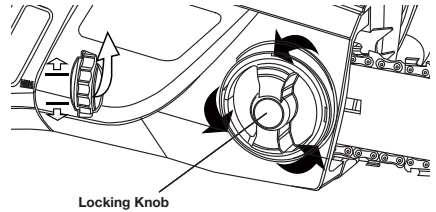

Fig. 20
2. Rotate the bar adjust locking knob counterclockwise (Fig. 20) to remove the cover from the saw's body.